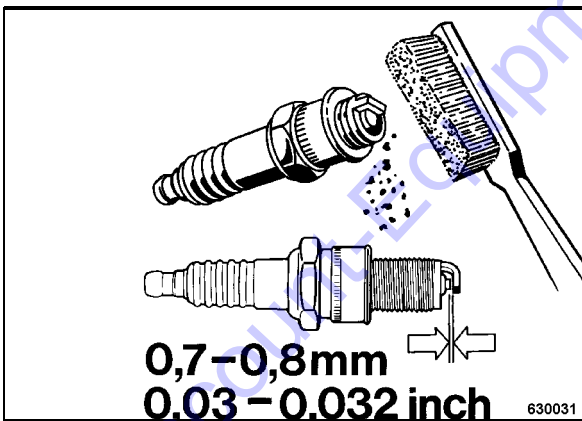

Fig. 36
- Clean the spark plug (Fig. 36).